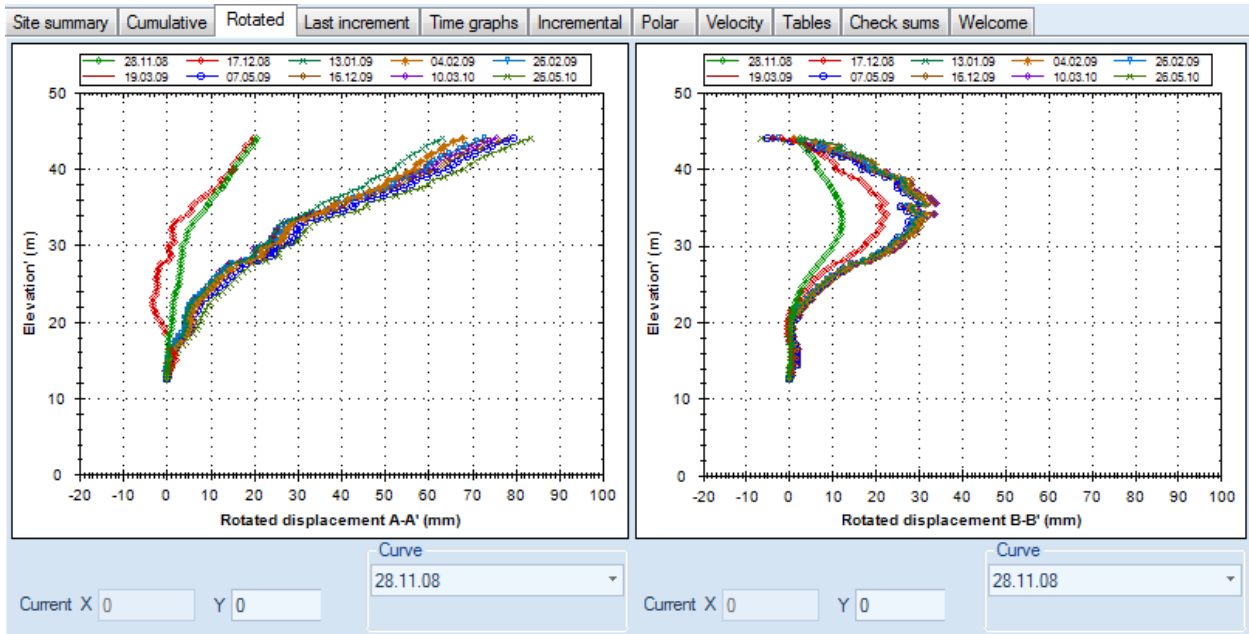

Figure 7.4: Rotated displacements vs. elevation
- **Rotated tab:** Rotated displacements along critical rotated axis (Fig. 7.4). The rotated A-A' axis is at the direction of maximum movement for each reading. Thus, the rotated axis is expected to change direction with each reading.